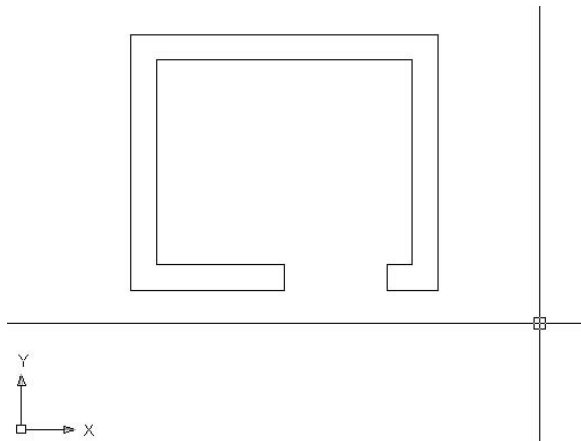

FIGURE 2.25: The completed trim
3. Pick the two vertical lines that extend above the new opening. Be sure to pick them above the opening (see Figure 2.24). The lines are trimmed away, and the opening is complete. Press \downarrow to end the Trim command (see Figure 2.25).